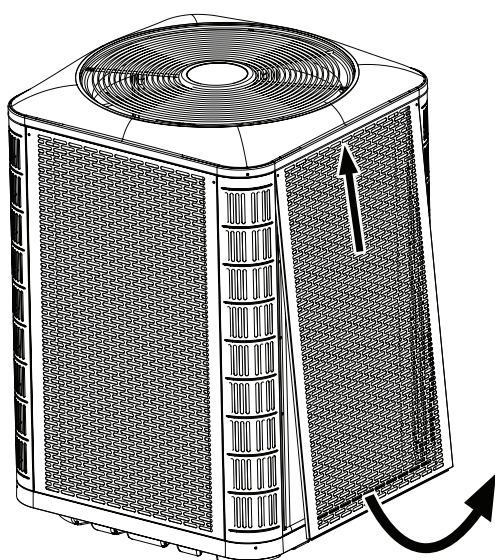
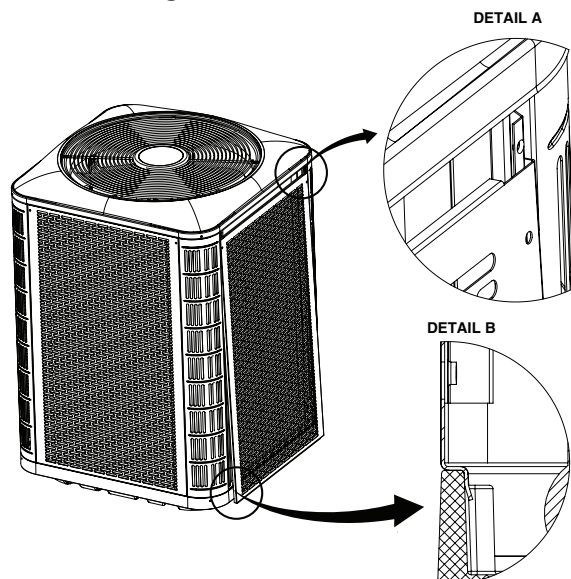

Figure 2. Panel Removal
Figure 3. Panel Installation
- To access the outdoor coil on units equipped with louvered panels, refer to Figure 2, \(page 7\) for panel removal and Figure 3, \(page 7\) for panel installation.
2. Slide the panel up towards the top pan in order to clear the bottom flange from the base pan. See Figure 2.
1. Insert the top corners of side panel flanges into the corner post channels as shown in Detail A in Figure 3.